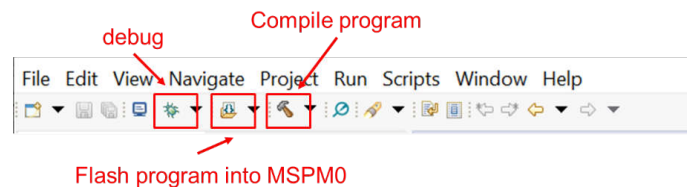
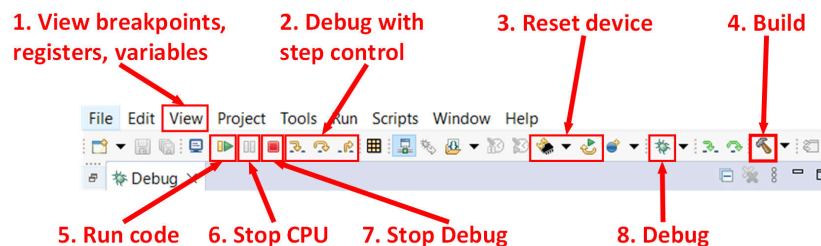

Figure 2-20. Commonly Used Function
Figure 2-21. Commonly Used Debug Functions
3. Figure 2-20 and Figure 2-21 show a quick introduction to CCS functions.